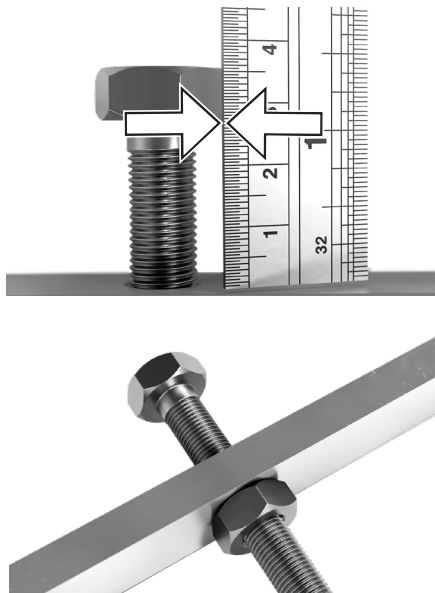

Fig.12B - Adjust bolt to desired cut height and secure nut (above example set for 27 mm)
3. On the setting bar, adjust the bolt against the rule until the distance between the base of the bolt head and rule is that of the desired grass length. Secure with the nut [19 mm spanner] (Fig.12B).